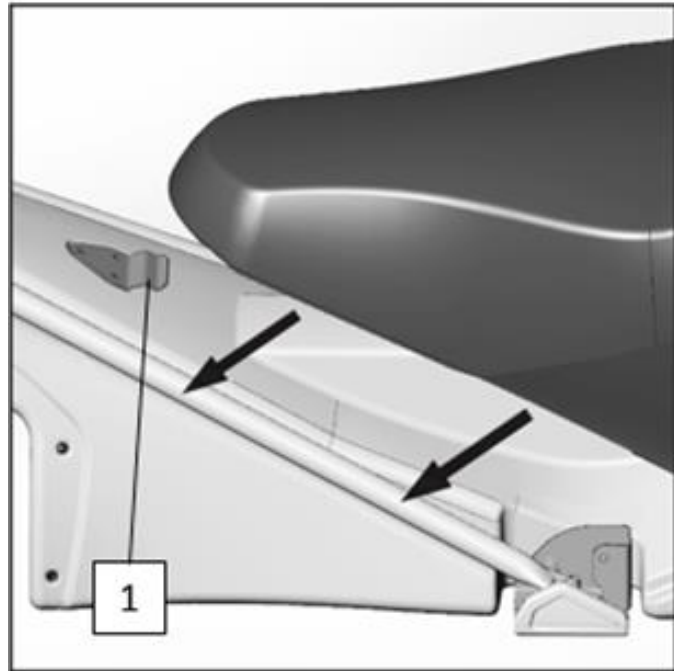

Fig. 23
1. Fix the seat on the fixed plate (posture 1, Figure 23);